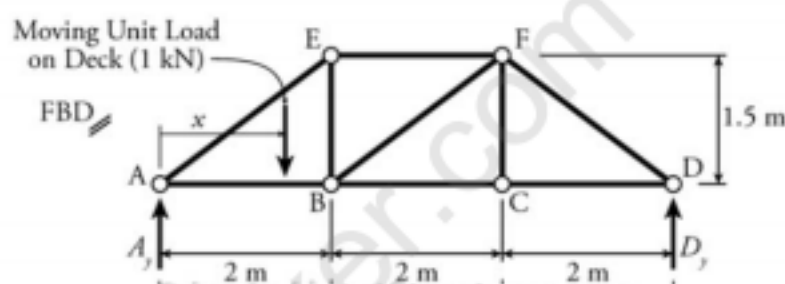

Fig.10
- b) Assume a unit point load is rolling along the bridge deck from points A to D in a simple truss as shown in Fig.10. The distance X is the distance of the moving load from point A. Construct the influence line diagram for the three members EF, BF and BC.